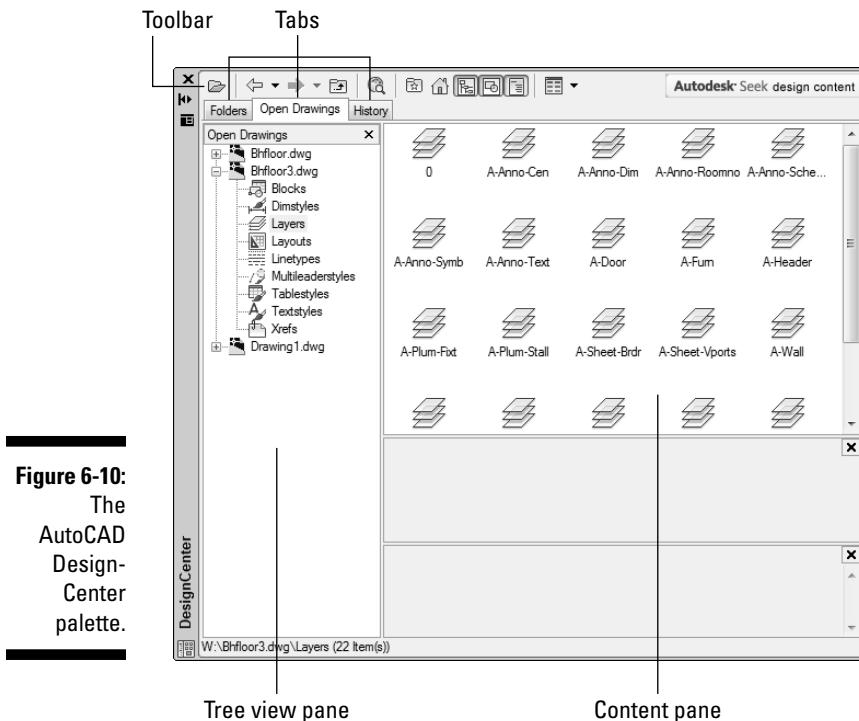

Figure 6-10:
The DesignCenter palette (as shown in Figure 6-10) consists of a toolbar at the top, a set of three tabs below that, a tree view pane on the left, and a content pane on the right. The tree view pane displays a Windows Explorer-like navigation panel, showing drawing files and the symbol tables contained in each drawing. The content pane usually displays the contents of the selected drawing or symbol table.
- ✓ **Open Drawings:** This tab (current in Figure 6-10) shows the drawings that are currently open in AutoCAD. Use this tab to copy named objects between open drawings.
The content pane now displays the individual named objects within the named object category. For example, in Figure 6-10 (shown previously), the Layers category is selected in the tree view pane, and icons for each named layer are shown in the content pane.
The previous set of steps outlines the general procedure for copying named objects from one drawing to another by using DesignCenter. The following steps show a specific example: copying layers from one drawing to another. You can use the same technique to copy dimension styles, layouts, linetypes, table styles, text styles, or any of the named objects shown in Figure 6-10.